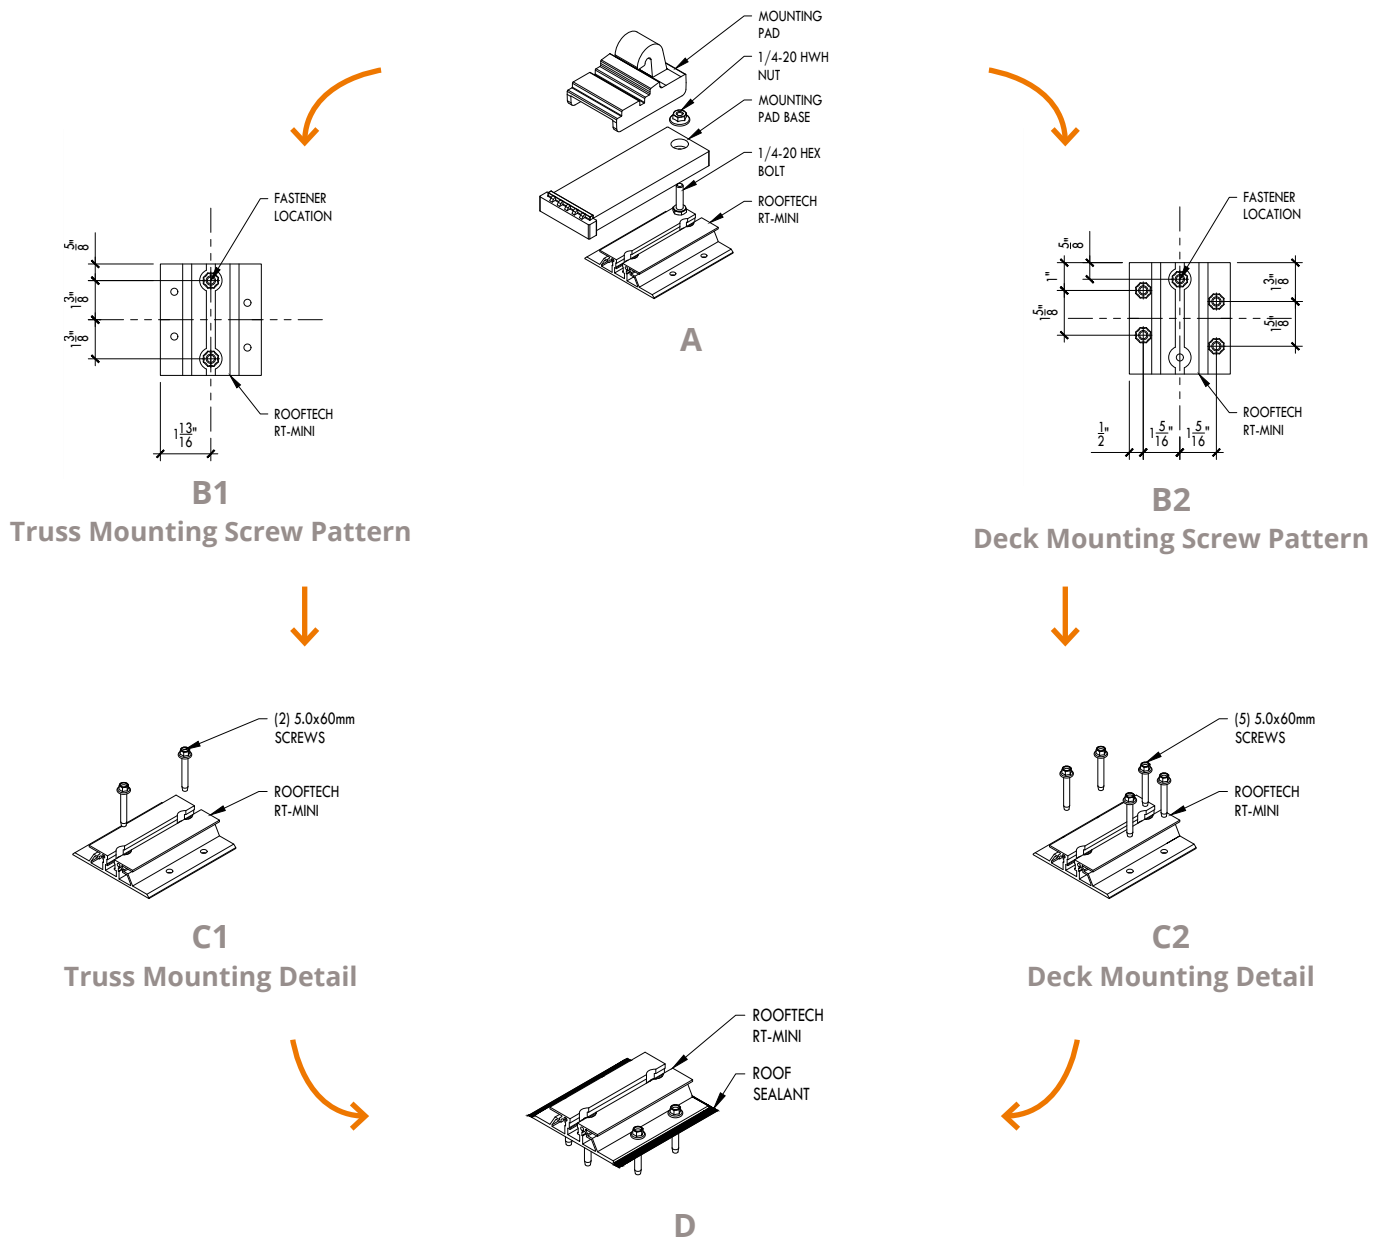

**Fig. 5**
3. Slide the mounting pad onto the first mounting track (Fig. 5-A) on the manifold and Position it on the chalk line and centered over a roof truss. No matter the truss location a minimum of (2) mounts are required at the top and bottom manifold of each collector (four in total).
4. Subsequent Top Mounting Pads should be spaced out evenly along the chalk line where roof trusses occur. Each top mounting pad must be located over a roof truss and within the middle third of the mounting track on the collector manifold. Be sure to connect collector manifolds together with a Plastic Panel Clamp (PPC) and slide the mounting pad onto the track before mounting (Fig. 5-B). If the mounting location at a truss does not align with the middle third of a mounting track, then use one of the methods described in the section following this one.
- Apply ample sealant to both the bottom and top of the anchor hole on the bottom portion of the Mounting Pad. (Fig. 8.4-A). Position the Mounting Pad perpendicular to the chalk line with the lower hole being placed right on the chalk line. Anchor the Mounting Pad to the roof through the hole using a 1/4" lag bolt (Fig. 5-C). The length of the lag bolt used is based on how much embedment into the truss is required. Typically, this is 2" of embedment but the engineering plans will specify this.